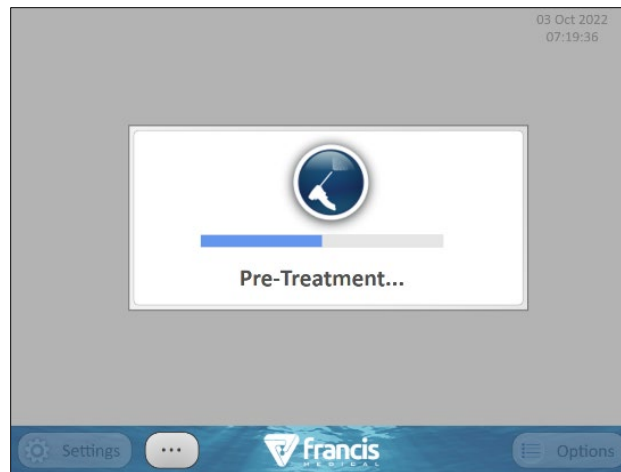

Figure 11-18: Pre-Treatment Status
- The Generator screen will display "Pre-Treatment..." and a status bar (Figure 11-18)